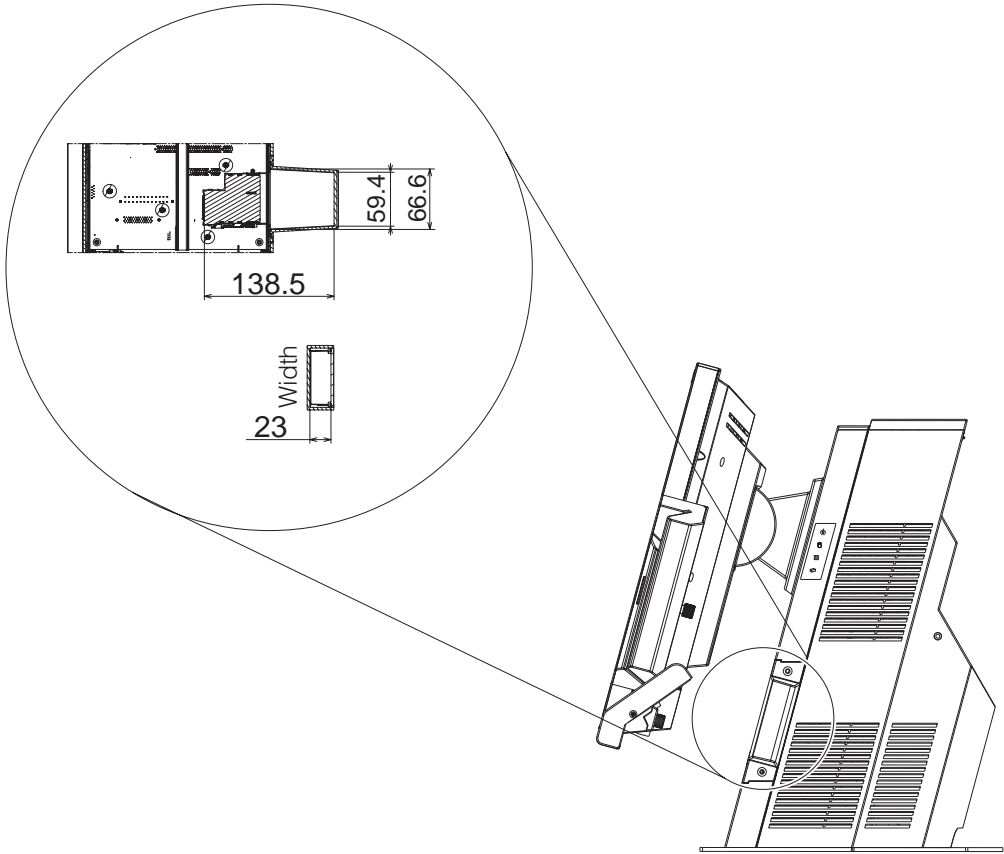

Figure 40. Removing a PC card adapter
3. If a wireless LAN antenna cover is present, remove the two screws, as shown in Figure 40 on page 69.